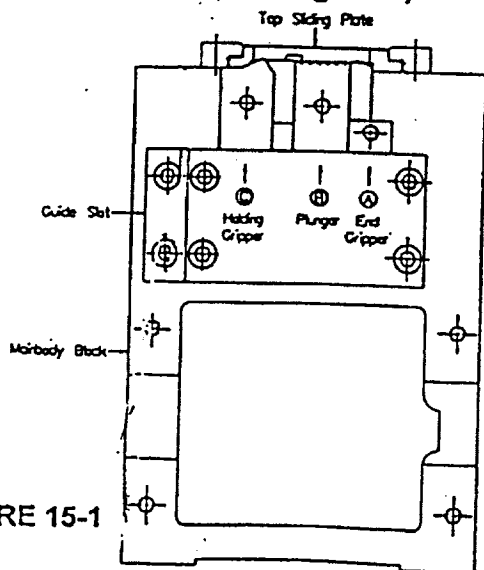

FIGURE 15-1
The gap between tension lever will be adjusted at proper position before selling. If the operator wish to adjust the width of P.P. strap, please adjust the lock nut (1) and lock nut (2) (Refer to fig. 15-2) and make sure the tension lever is on accurated gap. Please use hand to let the (A) (B) (C) touching the top sliding plate (Refer to fig. 15-1) and the distance of (E) (F) & (D) does not allowed to have any gap (Refer to fig. 15-2)